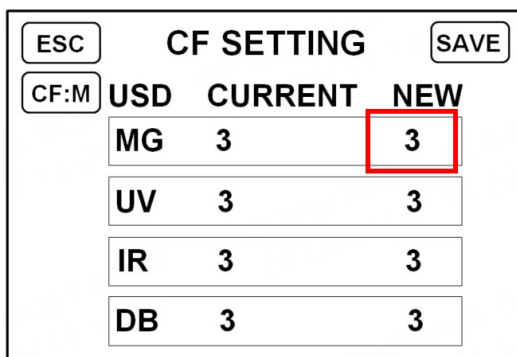

Figure 39
a) Default values of each parameter in middle gear counterfeit detection mode are shown in Figure 39 below. The default current counterfeit detection for MG is 3, and the default counterfeit detection for the NEW line is 3.